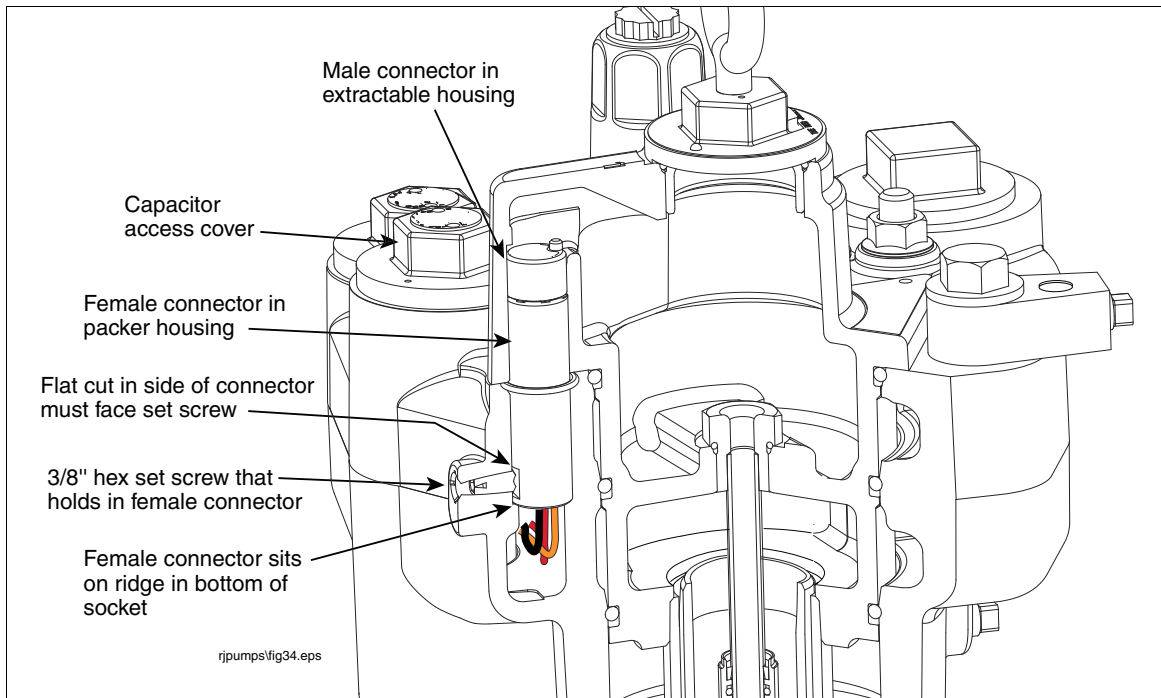

Figure 43. Locating female connector set screw
18. Using a 3/16" hex wrench, turn the set screw that holds the female connector in place about 1-1/2 turns counterclockwise until you can lift out the connector (see Figure 43). **Note: Do not try to remove the set screw.**